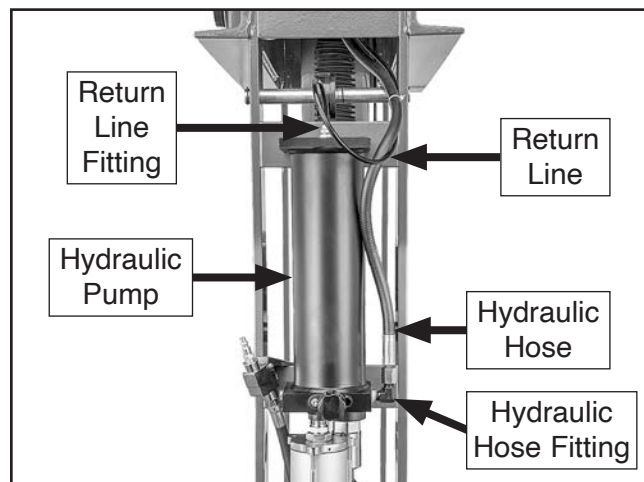

Figure 12. Hydraulic hose and return line connected to hydraulic pump.
16. Remove caps sealing hydraulic hose and hydraulic hose fitting on pump, then connect hydraulic hose to fitting on rear of hydraulic pump (see **Figure 12**).
17. Remove caps sealing return line and return line fitting on pump, then connect return line to fitting on top of hydraulic pump, as shown in **Figure 12**.